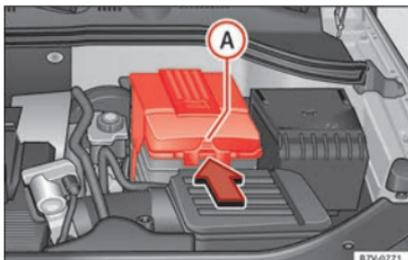

Fig. 248 In the engine compartment: remove the lid from the vehicle's battery.
- *In the case of a lid:* press the tab » **Fig. 248** in the direction of the arrow and pull the cover upwards.